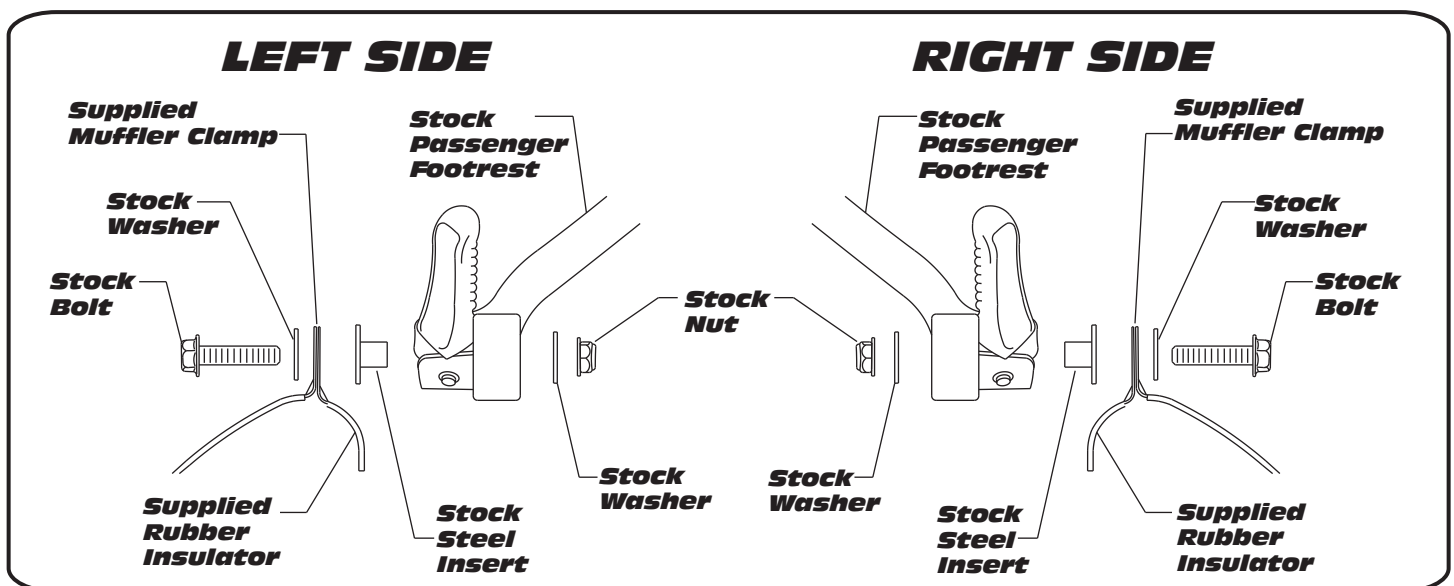

Fig. 1
NOTE: The muffler clamps are offset. The ears on the clamps should be offset toward the passenger footrests when sliding them over the left and right mufflers. See Fig. 1 for muffler clamp orientation.
- 5 Bolt mufflers to the stock muffler mount locations using stock muffler mount hardware (see Fig. 1).